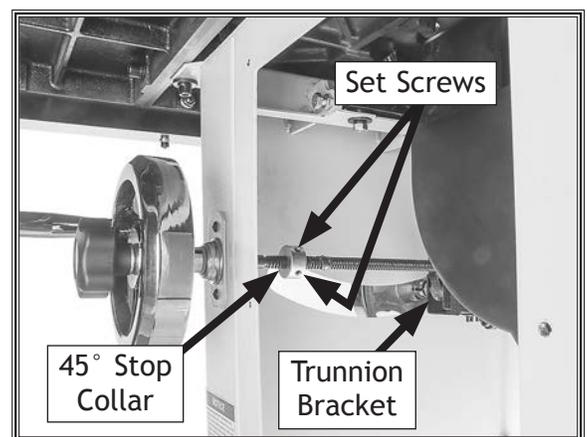

Figure 109. Location of 45° stop collar (right access cover removed).
5. Open right access cover, loosen set screws on 45° stop collar (see **Figure 109**), then turn collar one turn away from trunnion bracket. This will allow you to adjust blade to exactly 45° in next step.